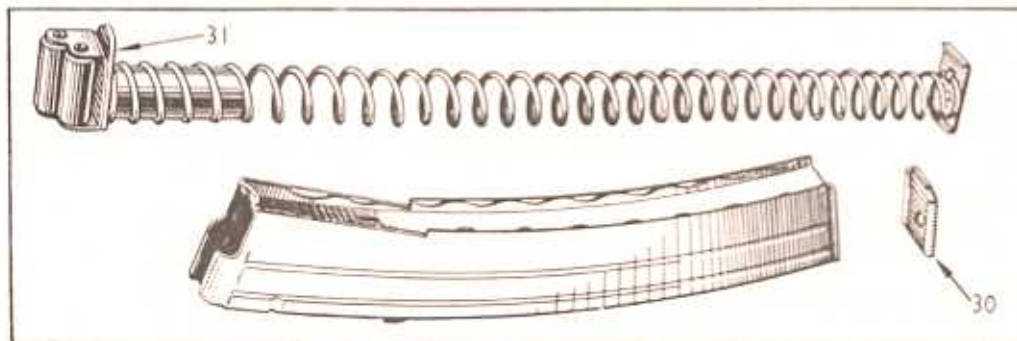

Fig. 16. To strip magazine
9.6 TO STRIP MAGAZINE (Fig. 16). Depress stud protruding through bottom plate (30) and slide plate from magazine case, controlling the magazine spring with hand